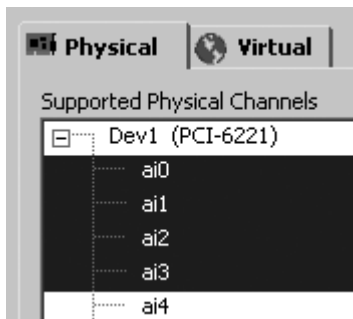

Figure 11.13
4. Select the Physical Channels “ai0” through “ai3” (<Ctrl> or <Shift> click to select multiple channels), and then press the **Finish** button (see Figure 11.13).